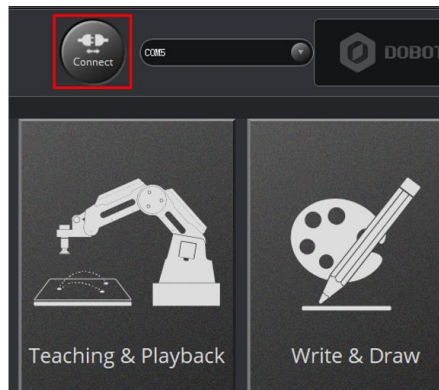
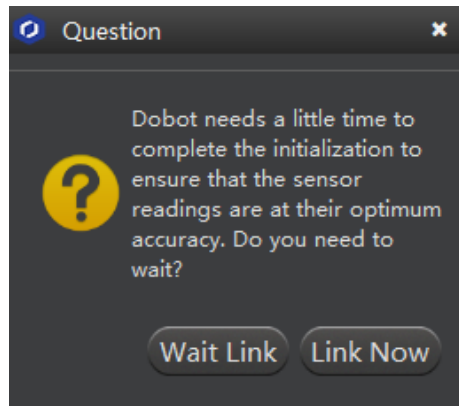

Figure 2.15 Click Connect
Figure 2.16 The Question dialog box
- Step 2** Click **Connect** on the DobotStudio page, as shown in Figure 2.15. The **Question** dialog box is displayed, as shown in Figure 2.16.